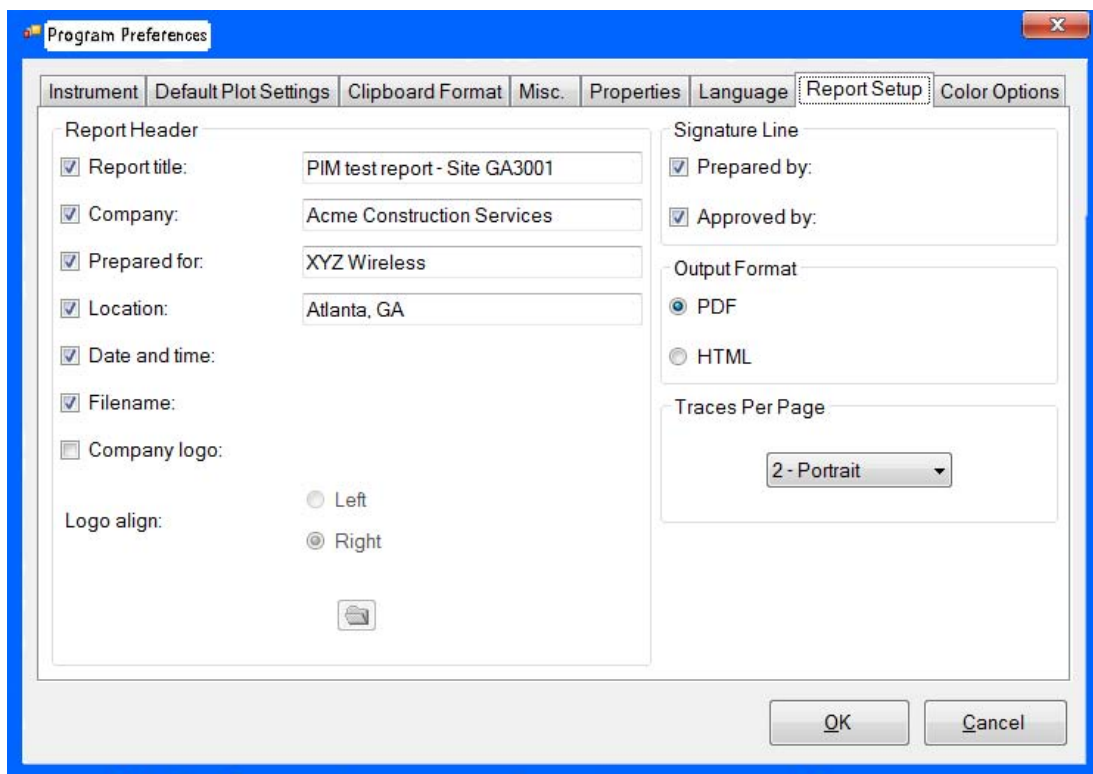

Figure 7-7. Report Setup Tab
To use the report generator in Line Sweep Tools, go to File menu and select Report Setup to determine how you want the report to appear. In the example in Figure 7-7, the report is set up to include the name of the contractor that did the work (Company field), the company for which the report is prepared, and the testing location. The report will be generated in PDF output format.
3. Go to **File > Report Setup** to specify the desired appearance of the report (See Figure 7-7 on page 7-7). Select the desired report header fields, the signature line options, the output format, and the number of traces to appear on each page. Then select **OK**.